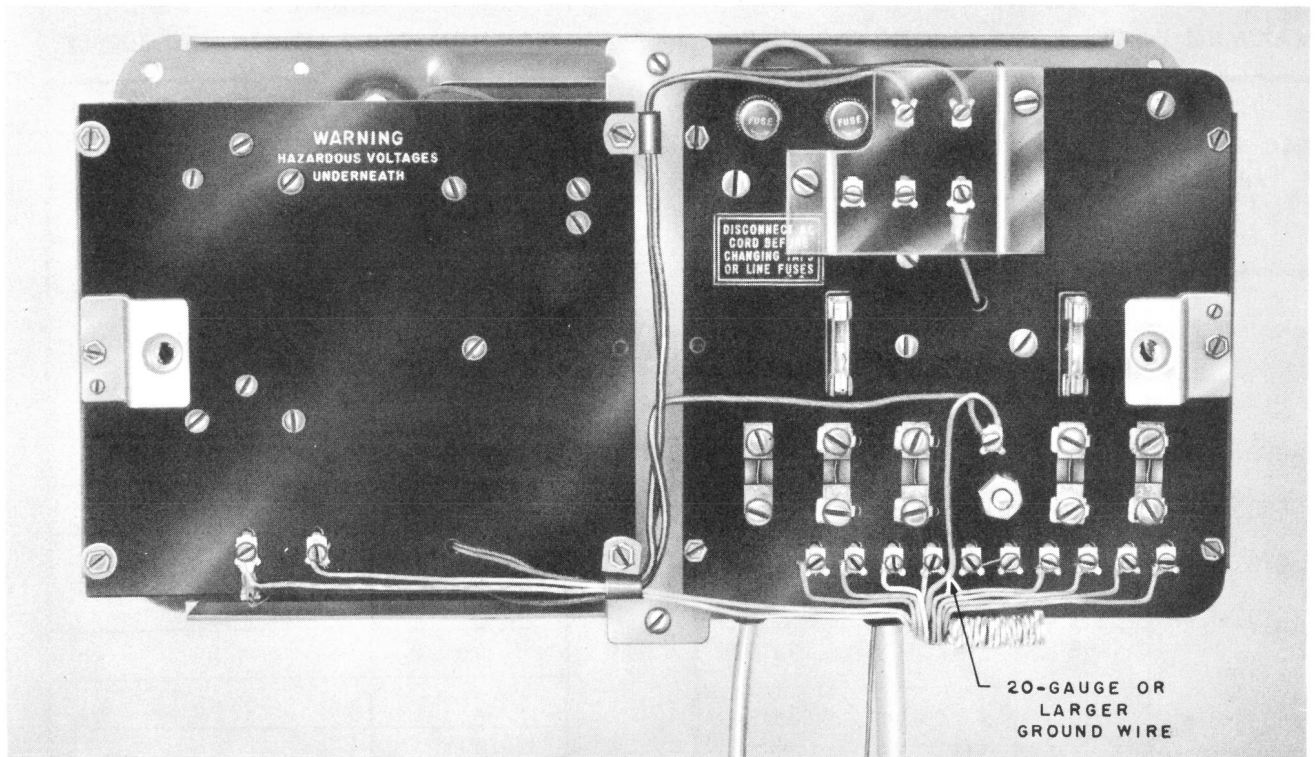

Fig. 13 — 101G Power Plant With Power Cable Terminated
- 6.09** Install a 20-gauge wire or equivalent between lamp power supply and key telephone units. Fig. 13 shows a J86731A, List 4 power plant and a power cable with 20-gauge conductors terminated.